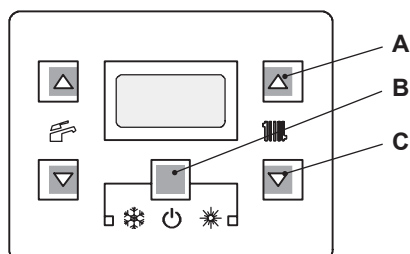
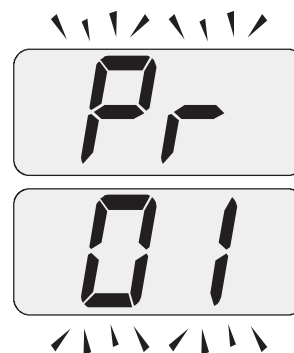
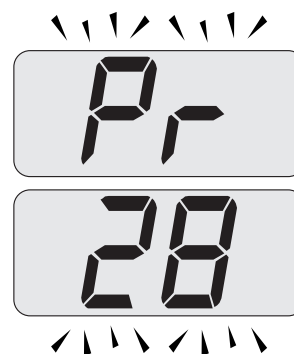

Figure 4.1
Figure 4.2
Figure 4.3
- 1 To enter in the parameters setting mode press sequentially the 3 keys "B - C - A" (Figure 4.1) and hold in for 10 second until the display shows Figure 4.2.
- 2 Scroll the various parameters using keys "A" or "C" (Figure 4.1) until the LCD display indicates the letters **Pr**, alternating with the code **28**, indicating entry in "parameter 28" (Figure 4.3).
- 3 Press keys "B" and "A" (Figure 4.1) at the same time until the LCD display indicates the value of parameter 28 (e.g. **12** default value) Figure 4.4.
- 5 By pressing key "B" (Figure 4.1) confirmation of the inserted value is obtained.
- 6 By pressing keys "B" and "C" (Figure 4.1) together, you will exit without changing the value (return to parameter list Figure 4.3).
- 7 Press keys "B - C - A" (Figure 4.1) together for 10 seconds to exit "programming mode".